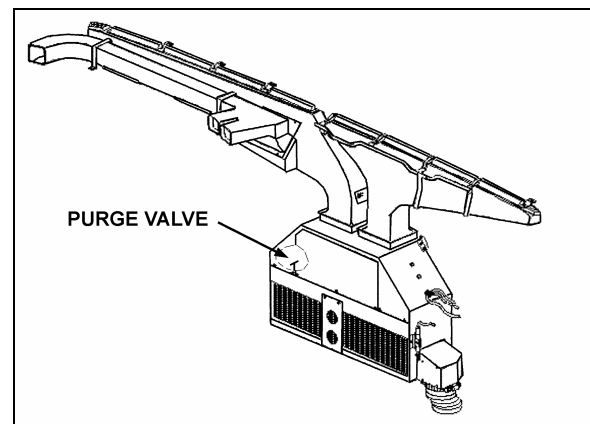
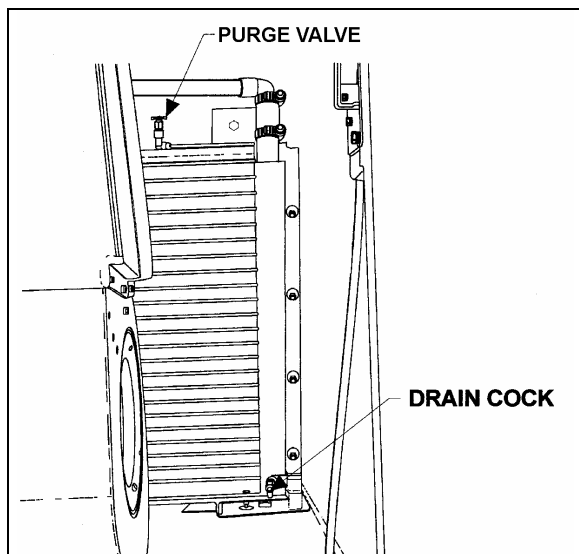

FIGURE 45: DRIVER'S UNIT AIR MIXING BOX 22171PV
FIGURE 46: PASSENGER'S UNIT HEATER CORE (H3 COACHES)
4. From inside of vehicle, remove the grill and the access panels. Open the purge valve located inside the driver's unit (Figure 45) to ensure an efficient draining.
4. Open drain cock in bottom of heater core, then open purge valve located on top of heater core (Figure 46) in order to allow air to enter while draining.
Whenever the heating system has been drained and refilled, or the system has run low on coolant and coolant has been added, it is necessary to bleed air from heating system. Locate the purge valve illustrated in Figure 45 and Figure 46, and open them momentarily until no air escapes from the lines.